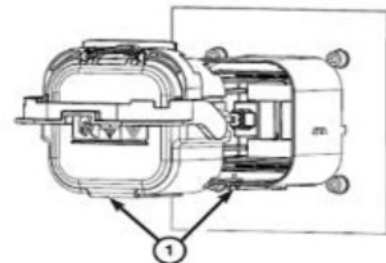

Figure 11 – MSD Installation
- c) Align the polarization feature (1) of the high-voltage MSD with the receptacle on the high-voltage battery (Figure 11).
- d) Push the high-voltage MSD evenly into the receptacle with the lever (1) in the 90° position.